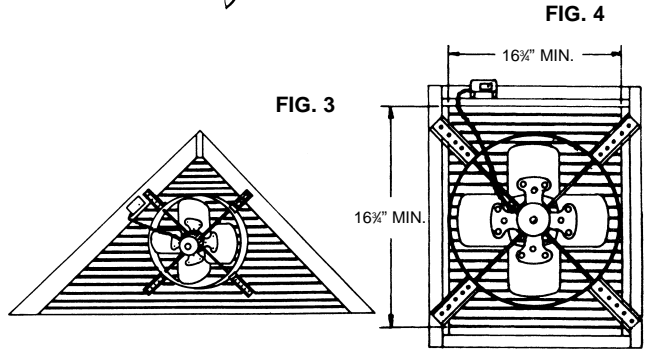

FIG. 5
3. For standard installation, connect the two leads in the thermostat / junction box to the two supply leads. Attach ground wire from the supply to the green ground screw in the box. See Fig. 5.